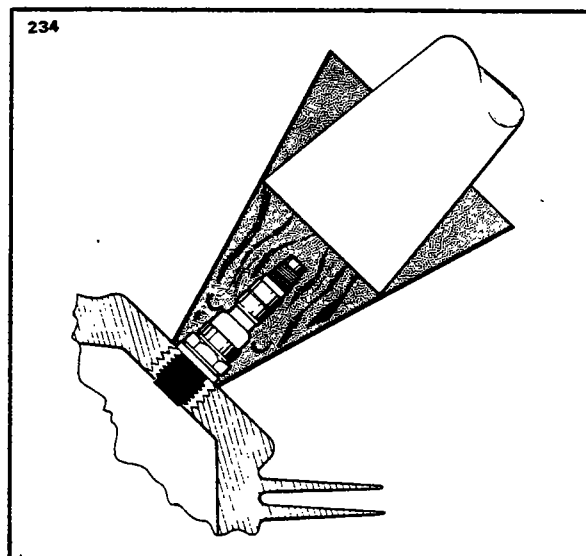

Figure 8A-31. Removing Spark Plug Frozen to Bushing
d. Removal of seized spark plugs in the cylinder may be accomplished by application of liquid carbon dioxide by a Conical metal funnel adapter with a hole at the apex just large enough to accommodate the funnel of a CO2 bottle. (Refer to Figure 8A-31.) When a seized spark plug cannot be removed by normal means, the funnel adapter is placed over and around the spark plug. Place the funnel of the CO2 bottle inside the funnel adapter and release the carbon dioxide to chill and contract the spark plug. Break the spark plug loose with a wrench. A warm cylinder head at the time the carbon dioxide is applied will aid in the removal of an excessively seized plug.